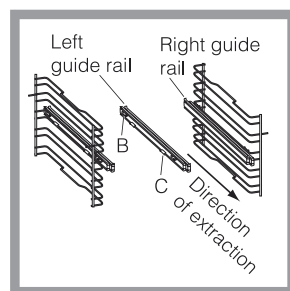

Figure 1.
- » Choose which shelf to use with the telescopic runner. Paying attention to the direction in which the runner is to be extracted, position joint 'B' and joint 'C' on the frame (see Fig.1).